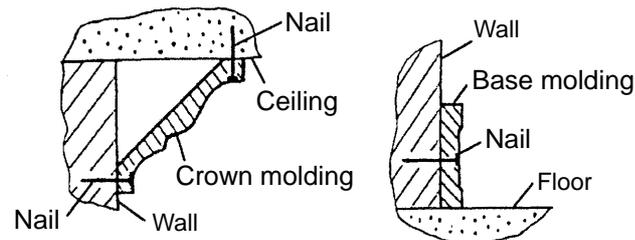

**Fig. 1 Dimensions of nails**
**CAUTION:** Ensure that nails are as specified in Fig. 1. Other nails will cause clogging of nails and subsequent damage to the nailer.